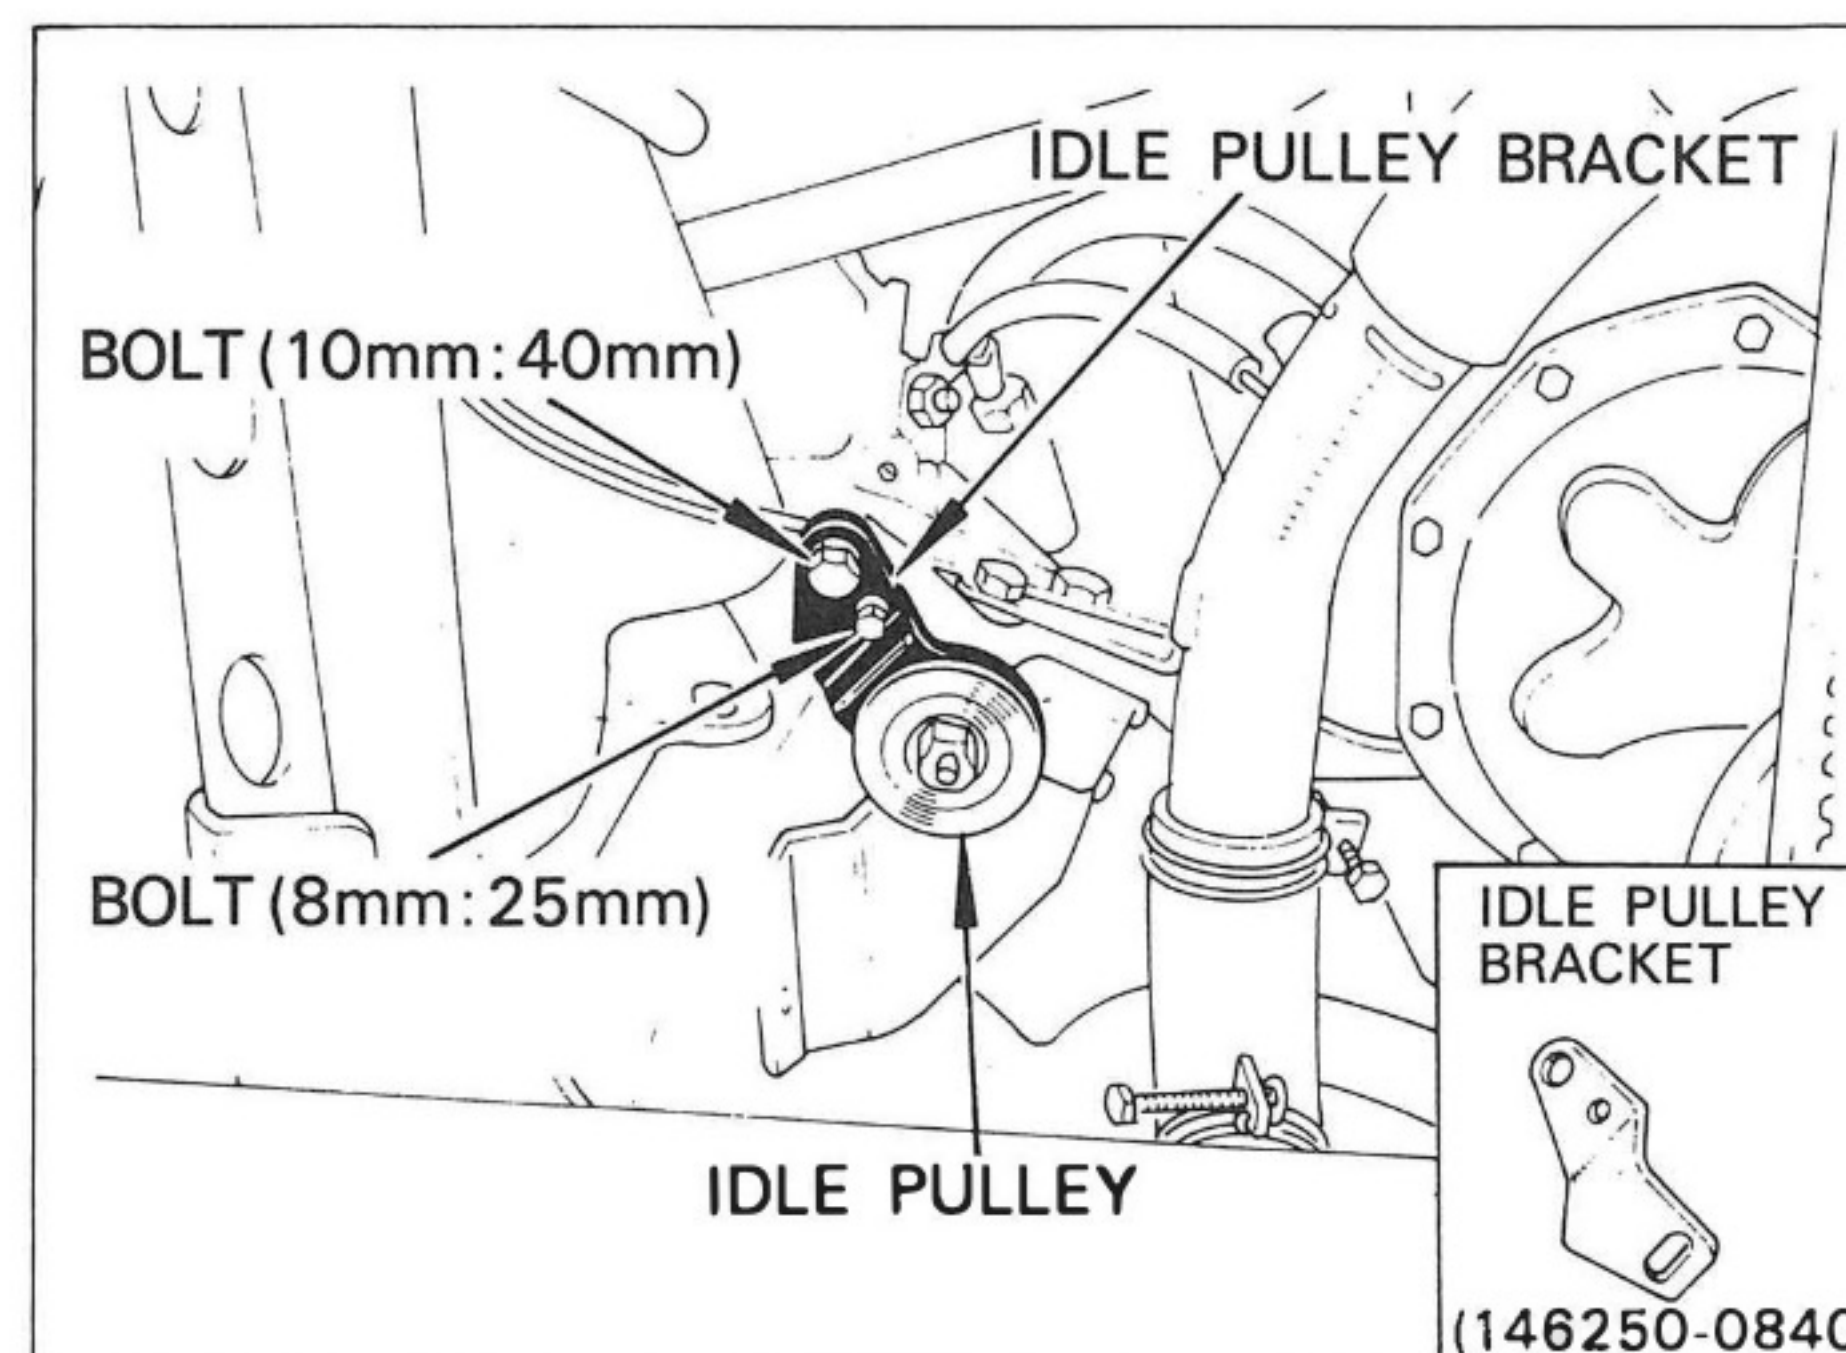

Fig. 22
- B) Install the idle pulley to the compressor bracket as shown in Fig. 22.